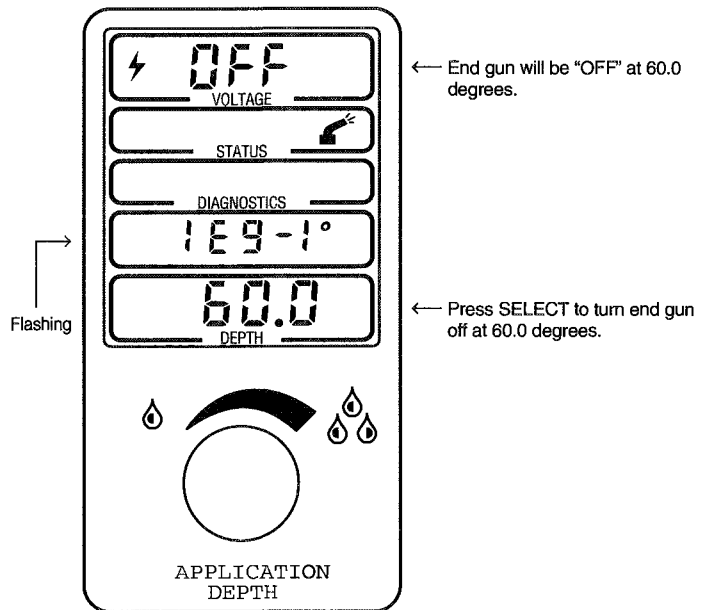

Figure 2.9
3. Turn the knob clockwise to set the "OFF" angle to 60.0 degrees. Notice that "OFF" is displayed in figure 2.9 the entire time the knob is being turned. This indicates that the end gun "OFF" value is being set.